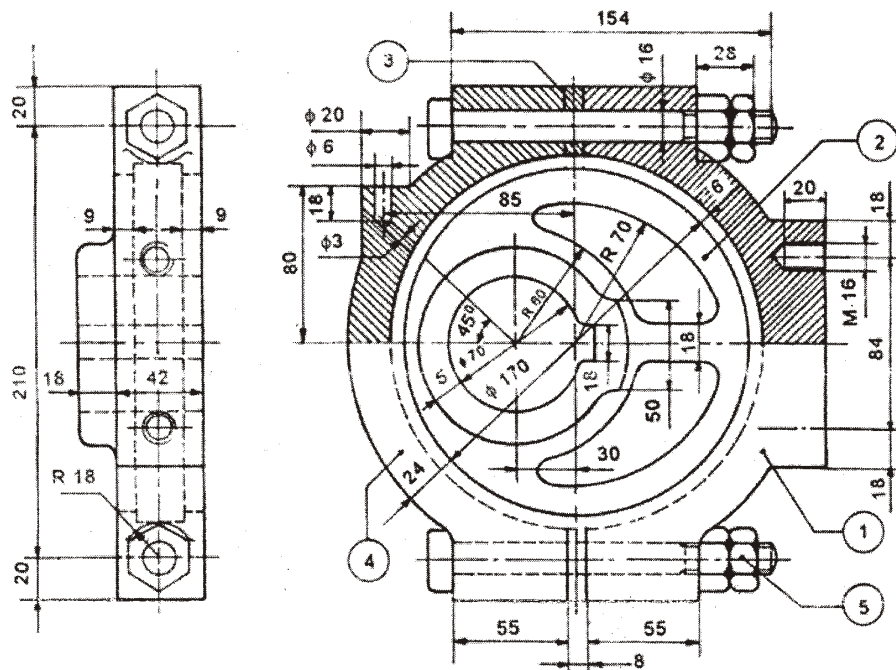

Fig. 1 : Eccentric
- Instructions :** (1) Answer *any one* question.
(2) Each question carries **forty** marks.
(3) Choose suitable scale.
5. Study the given assembly drawing as shown in Fig. 1—eccentric :